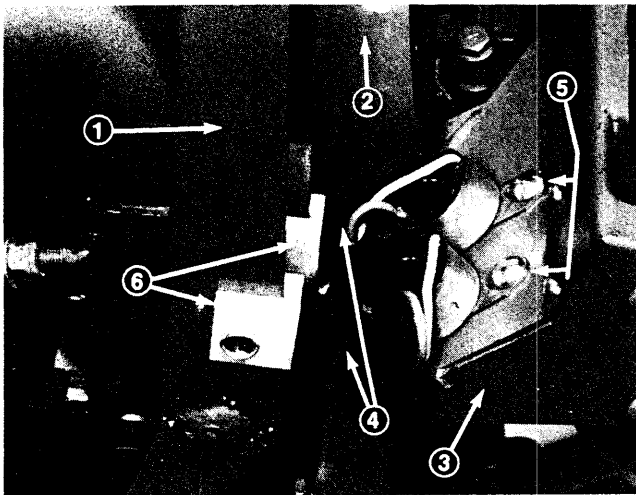

Figure 44
1. Remove shroud from around traction and cutting unit levers; refer to Removing Shroud. Position traction lever in N (NEUTRAL) and cutting unit lever in DISENGAGE position (Fig. 44).
so both switch levers contact the insulation blocks and are deflected 3/8 in. (10 mm). Tighten the nuts and capscrews (Fig. 44).
3. Loosen round head screw securing reel drive lever switch (Fig. 44). Move cutting unit lever switch in slotted hole in control panel to further deflect switch lever. Adjust until contact is lost between switch and cutting unit lever when top of lever (handle end) is moved 1/2-3/4 in. (13 - 19 mm) and tighten round head screw.